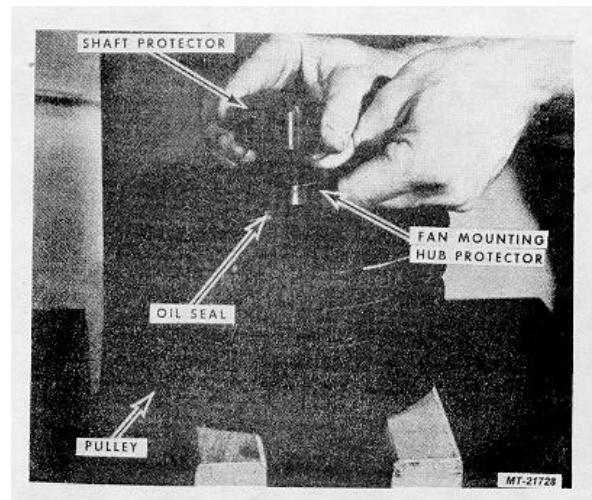

Fig. 36.
33. Place shaft protector SE-2782-8 and fan mounting hub protector SE-2782-3 on Oil Seal, Fig. 36.